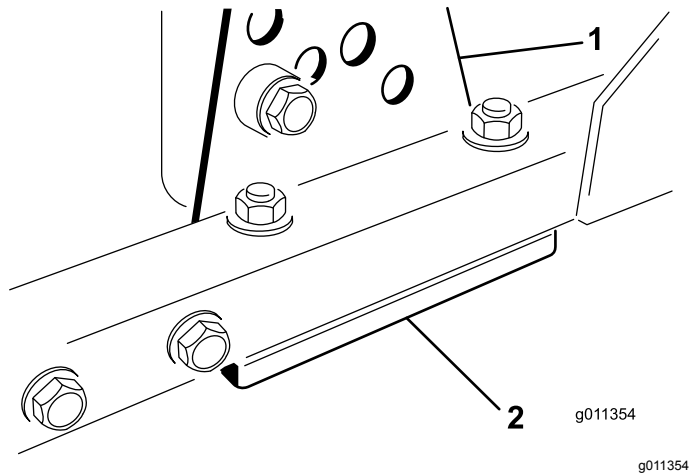

Figure 101
1. Remove the height-of-cut bracket, (front, left, or right) from the deck frame (Figure 101).
2. Adjust 1.5 mm (0.060 inch) shims and/or 0.7 mm (0.030 inch) shims between the deck frame and bracket to achieve the desired height setting (Figure 101).